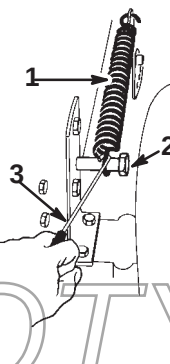

**Figure 44**
12. Engage blade control (PTO) lever on dash. Measure distance between hook ends of idler spring (Fig. 44). Adjust jam nuts so 6" (150 mm) dimension is obtained (Fig. 44).